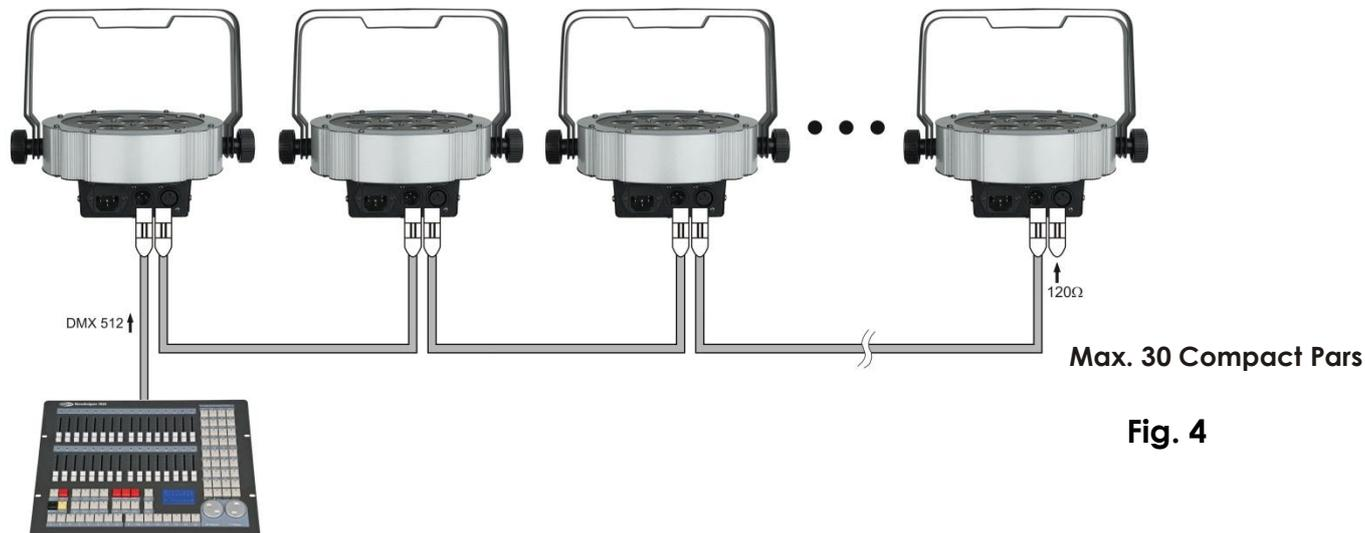

Fig. 3
3. Link the units as shown in (Fig. 3), Connect a DMX signal cable from the first unit's DMX "out" socket to the second unit's "in" socket. Repeat this process to link the second, third, and fourth units. You can use the same functions on the master device as described on page 12 (Built-in Programs, Autorun or Music control). This means on the master device you can set your desired operation Mode and all slave devices will react the same as the master device.